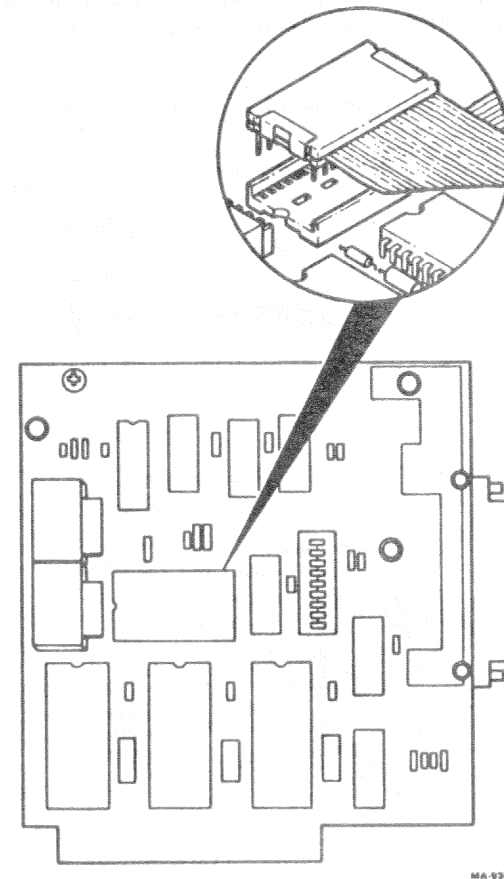

Figure 5-6 VT125 24-Pin Flat Cable on STP Board
6. To install the printer port/STP board, perform steps 1 through 5 in reverse. For a VT125, refer to Figure 5-6 to install the 24-pin cable.